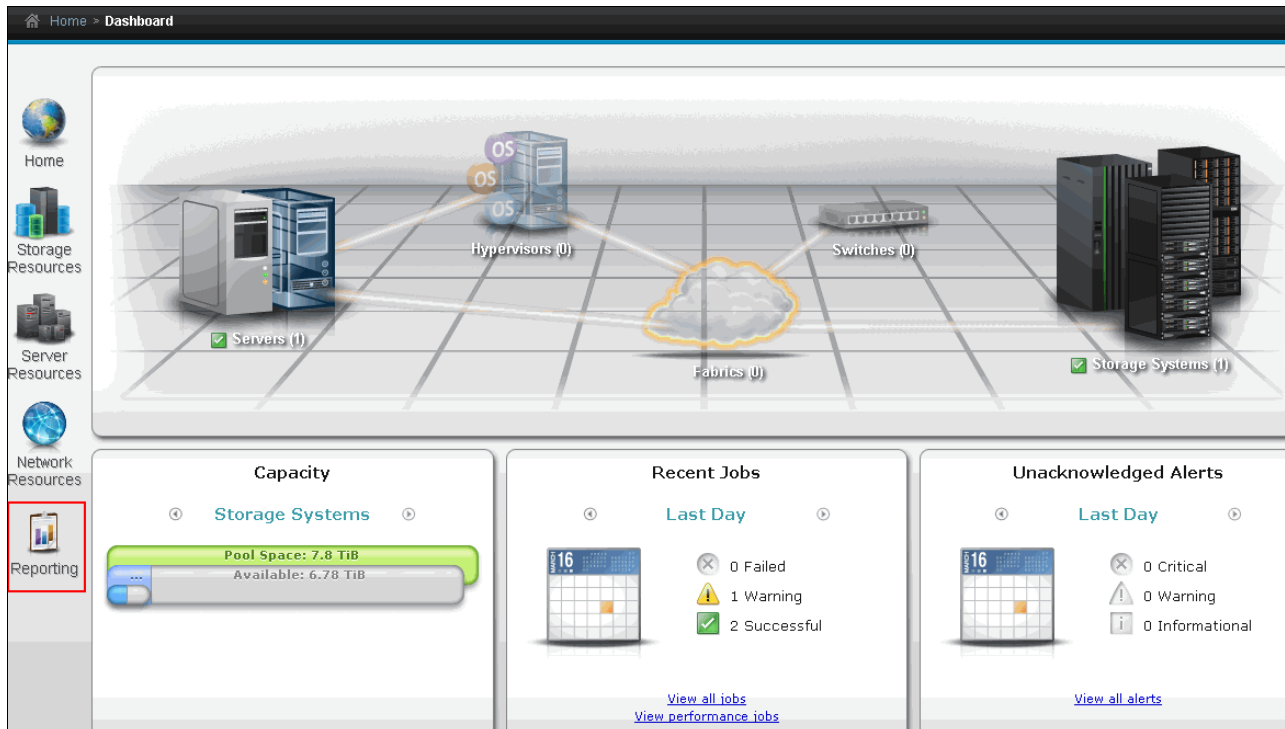

Figure 11-98 Tivoli Storage Productivity Center Dashboard
3. After you log in, the Tivoli Storage Productivity Center web dashboard is displayed, as shown in Figure 11-98. The Tivoli Storage Productivity Center web-based GUI is used to show information about the storage resources in your environment. It contains predefined and custom reports about performance and storage tiering.